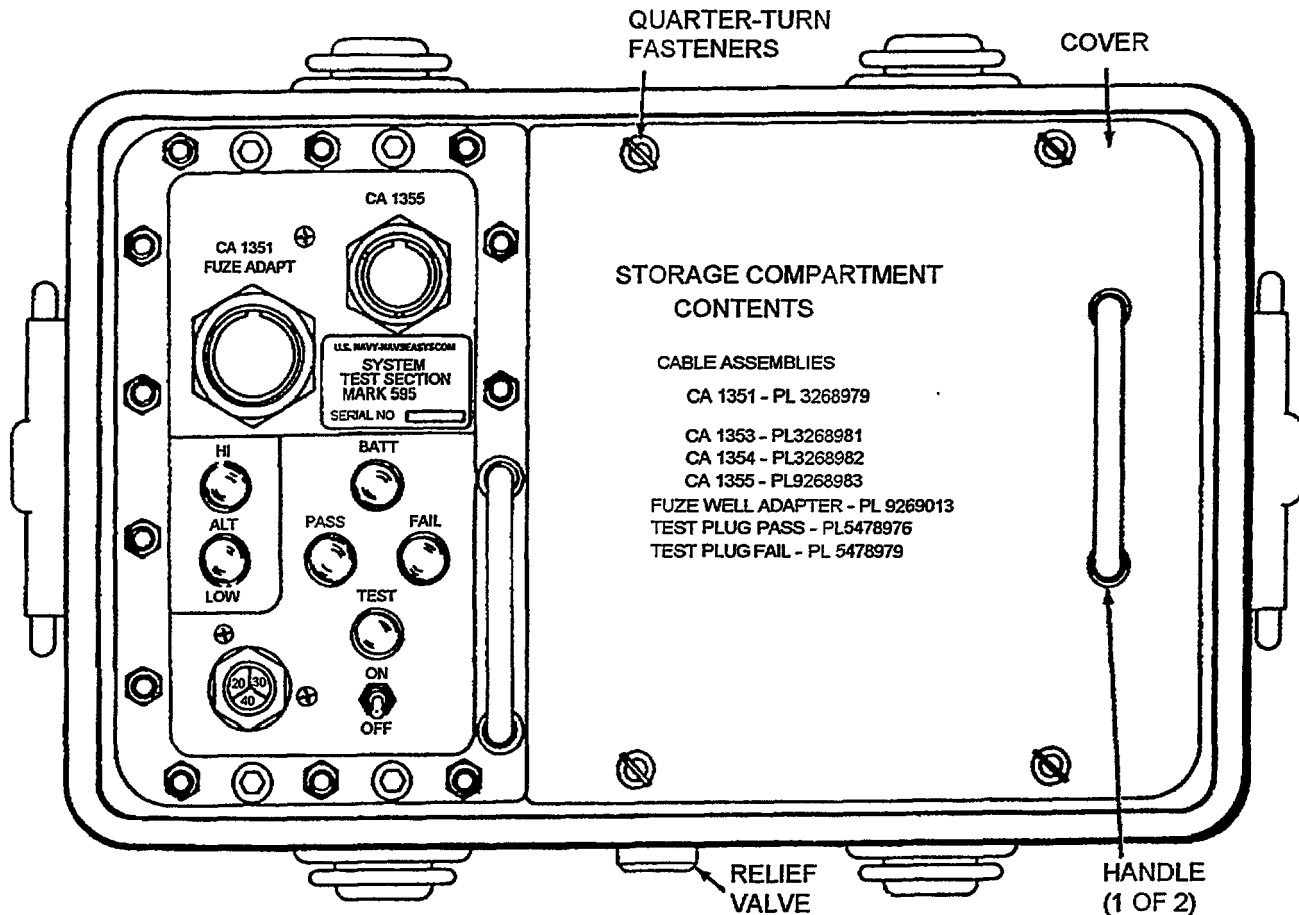

Figure D-3. Test Set Mk 595 Mod 1, System Test Section
1. The system test section (Figure D-3) Self Test is performed to ensure that the test set meets general requirements for conducting Class C testing of Mod 0 configurations of Underwater Mines Mk 62 and Mk 63.